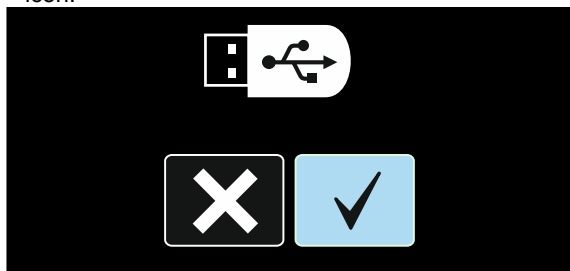

Figure 53.
- Use the Set Control [11] to highlight the Check Mark icon. See Figure 53.